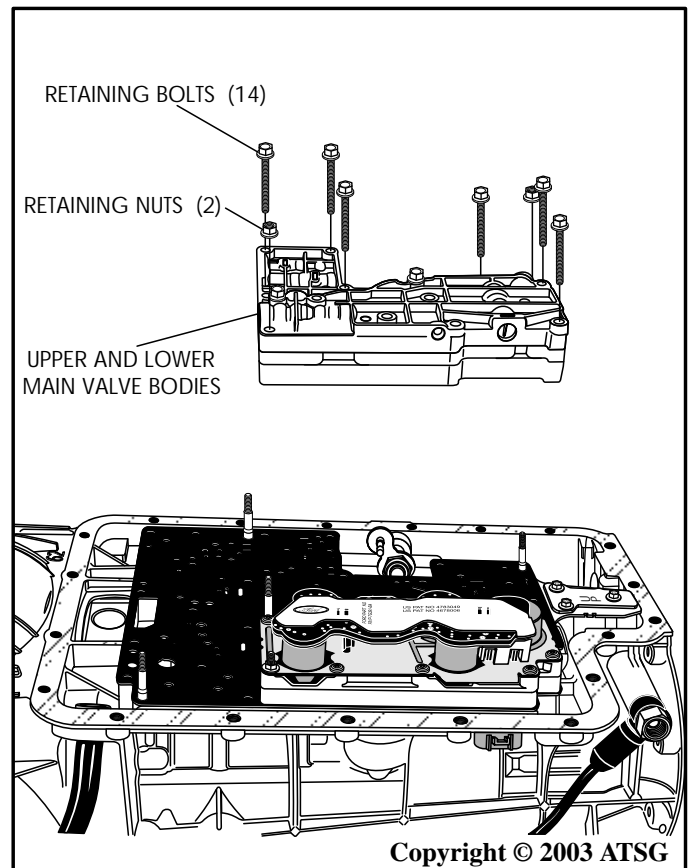

Figure 193
10. Install the pre-assembled upper and lower main valve bodies, as shown in Figure 193, ensuring that manual valve is engaged on manual lever.
11. Install the 14 valve body retaining bolts and the two nuts, as shown in Figure 193, and hand tighten only at this time.